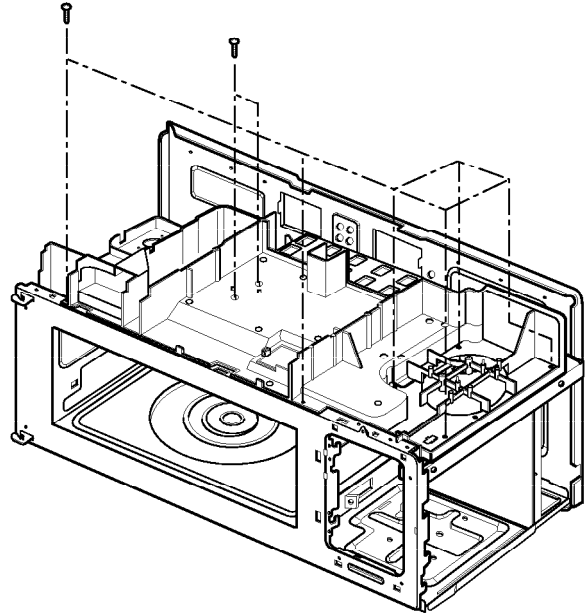

Figure 32
- (1) Remove all screws from out case and remove the out case.
- (2) Remove 6 screws securing the air duct to the oven cavity, and remove 2 screws securing the stirrer fan motor to the bracket. (Figure 32)